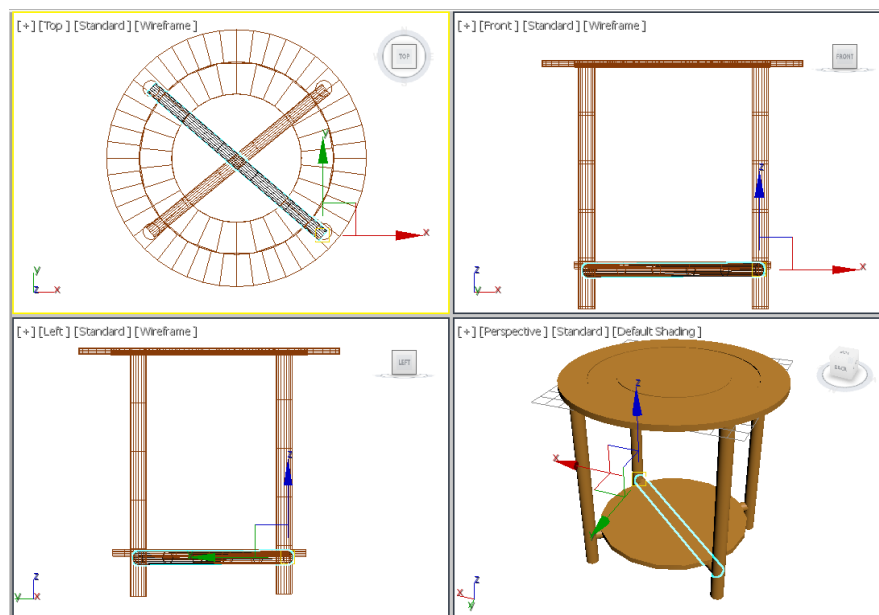

Figure 2-58 Alignment of support002 with base01
7. In the Top viewport, copy *support01* by using the **Clone Options** dialog box as described earlier; *support002* is created. Now, align it with *base01* using the **Select and Move** and **Select and Rotate** tools, refer to Figure 2-58.